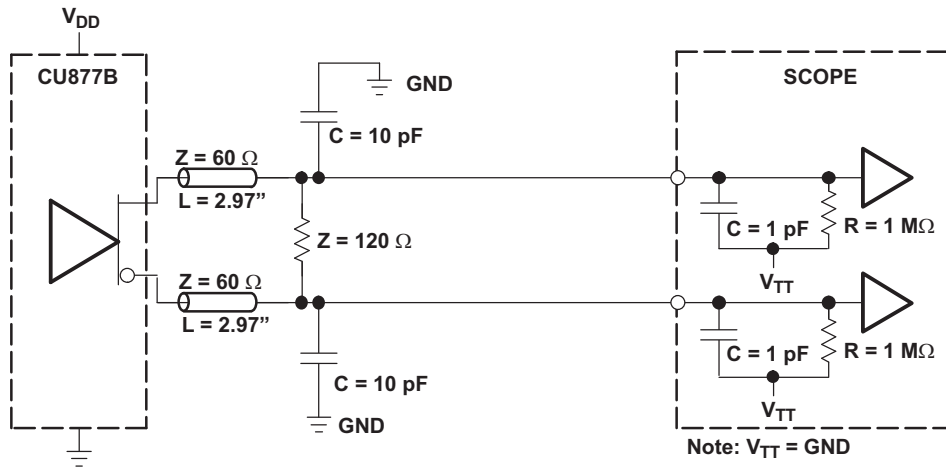
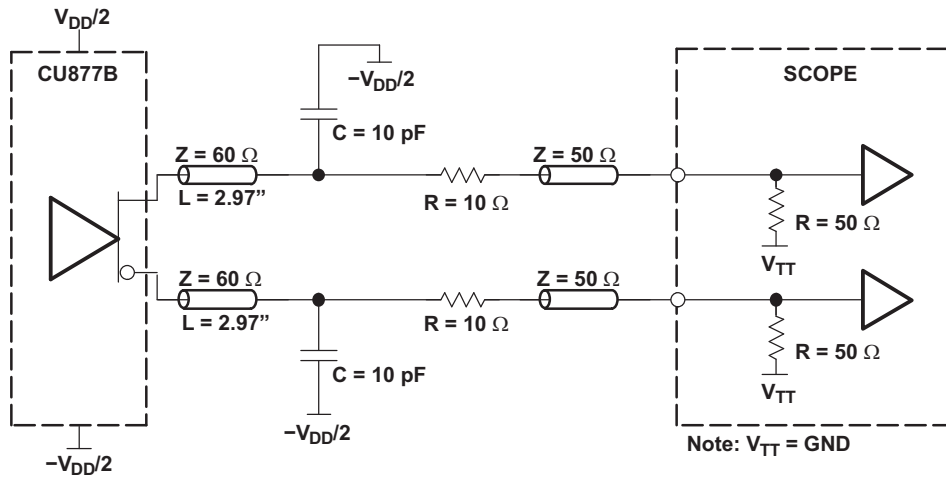

Figure 2. Output Load Test Circuit 1
Figure 3. Output Load Test Circuit 2
- (1) There are two different terminations that are used with the following tests. The load/board in Figure 2 is used to measure the input and output differential-pair cross voltage only. The load/board in Figure 3 is used to measure all other tests. For consistency, equal length cables must be used.
- (2) This parameter is specified by design and characterization.
- (3) Phase static offset time does not include jitter.
- (4) Period jitter, half-period jitter specifications are separate specifications that must be met independently of each other.
- (5) The output slew rate is determined from the IBIS model with a 120- $\Omega$  load only.
- (6) To eliminate the impact of input slew rates on static phase offset, the input skew rates of reference clock input CK and  $\overline{CK}$  and feedback clock inputs FBIN and  $\overline{FBIN}$  are recommended to be nearly equal. The 2.5-V/ns skew rates are shown as a recommended target. Compliance with these typical values is not mandatory if it can adequately shown that alternative characteristics meet the requirements of the registered DDR2 DIMM application.
- (7) Output differential-pair cross voltage specified at the DRAM clock input or the test load.